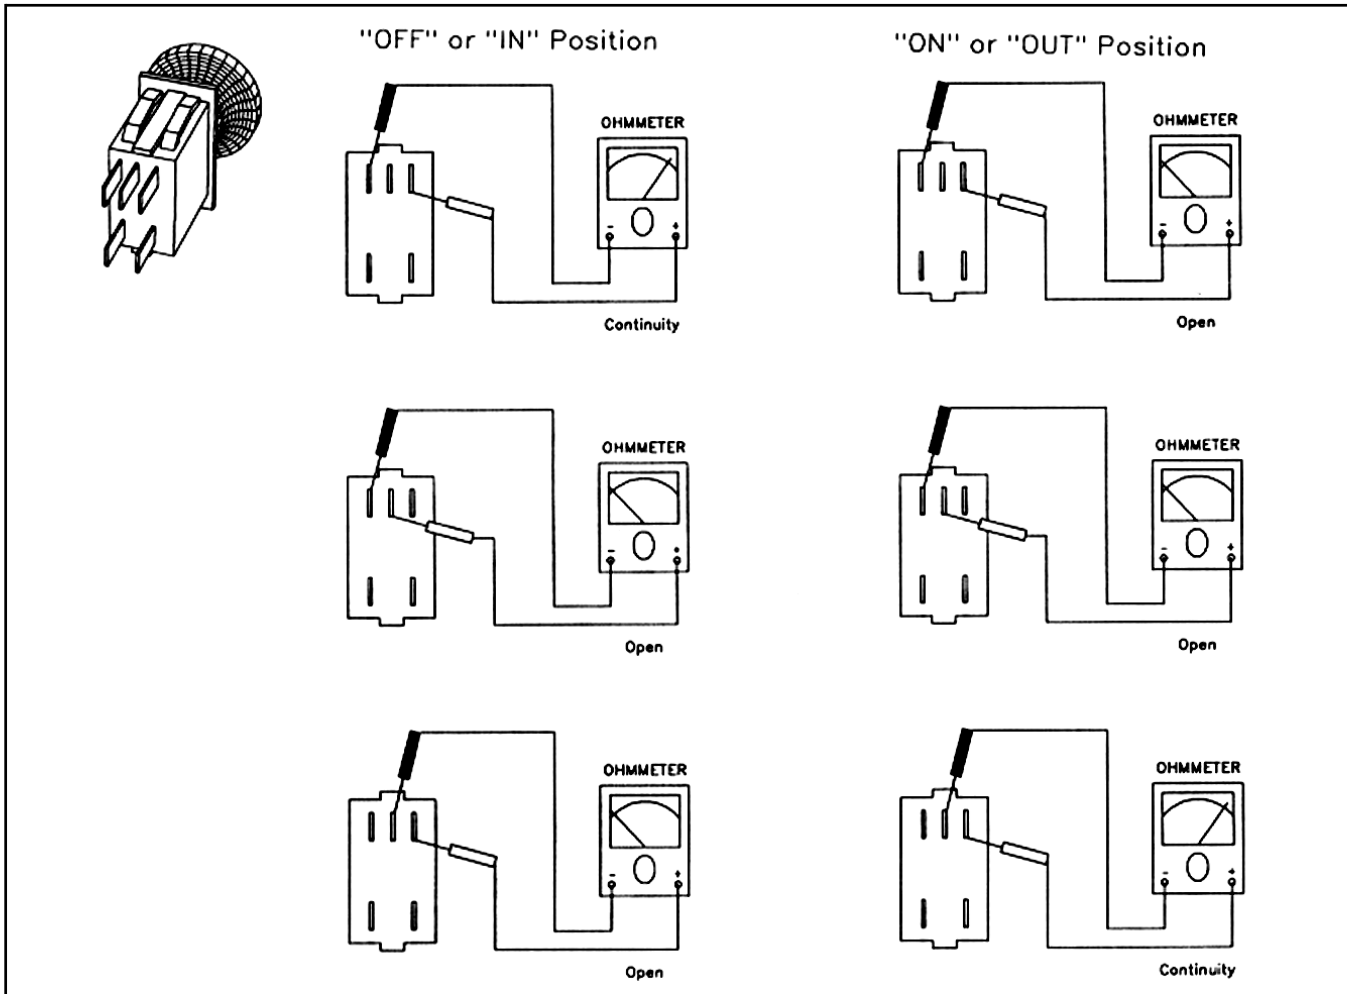

Figure 40
4. Verify that there is continuity between the appropriate terminals in the "ON" and "OFF" positions, Figure 40.
5. Replace the switch if your test results do not correspond with those given in Figure 40.